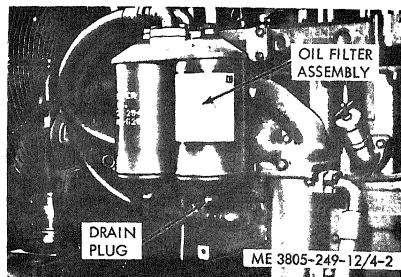

Figure 4-2. Oil filter assembly.
c. Remove the oil filter housing drain plug (fig. 4-2) and allow the oil to drain.